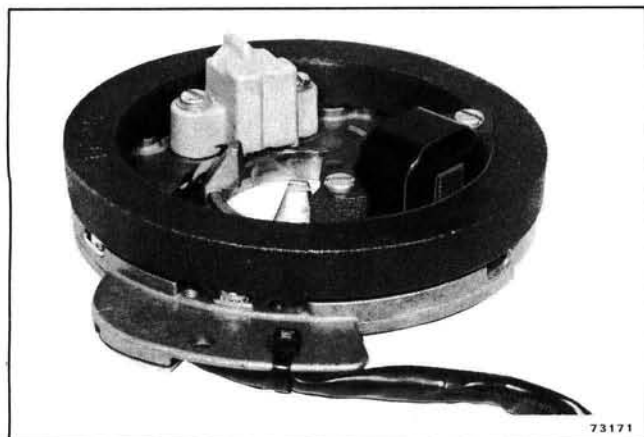

Figure 4-42. Coil Locating Ring
d. Correct locating of the coil assembly is governed by machined mounting surfaces on the armature plate. The outside edge of the charge coil and sensor coil must be flush with the machined surfaces on the armature plate to prevent contact with the flywheel magnet and provide maximum output from the coils. See Figure 4-41, view A. Alignment of the charge, coil and sensor coil will be simplified when using the OMC Coil Locating Ring (Special Tool No. 317001) machined to fit over the armature plate bosses. See Figure 4-42. With the Coil Locating Ring in position over the armature plate bosses, push the ring toward the coil, while pulling the coil toward the ring, and tighten the coil mounting screws to the torque specified in Section 2.